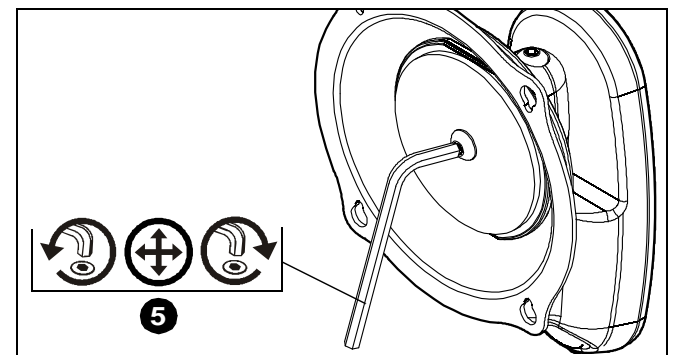

Figure 9
5. Turn the tension adjustment screw clockwise to increase tension, or counter-clockwise to decrease tension. (See Figure 9)